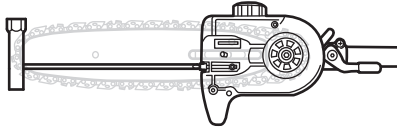

Fig. 6c
4. Turn the tension screw (D12) clockwise with the slotted screwdriver (E4), and make sure the tension pin(D11) is adjusted to its closer position. (See Fig. 6c)